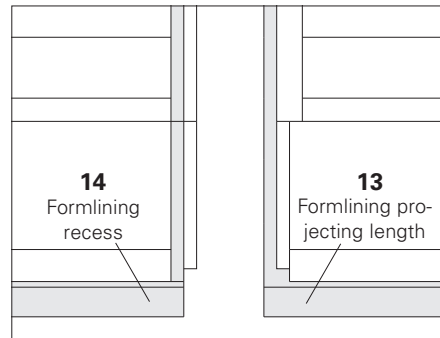

Fig. A3.01.1
1. Remove Eye Bolts (6) from the bottom element.
2. Insert the top element with its projecting length of formlining (13) into the formlining recess (14) of the bottom element. (Fig. A3.01.1)